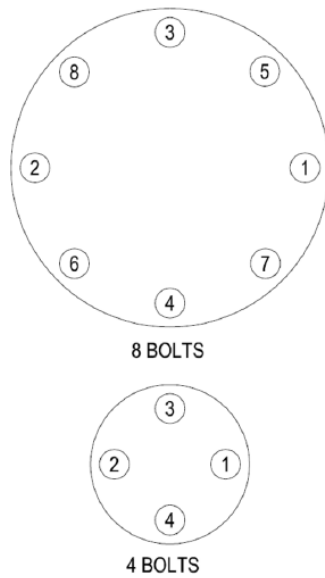

Figure 8 - Bolt tightening sequence
6. Using the crisscross pattern shown in Figure 8, apply torque in 4 steps of 25% increments. For larger quantities of bolts than shown below, use a similar crisscross pattern. For example, if the torque required from Table 1 is 100 ft-lb, the torque should be applied in 25 ft-lb increments. Apply 25 ft-lb to each nut, then 50 ft-lb, then 75 ft-lb, etc. For larger quantities of bolts than shown below, use a similar crisscross pattern.